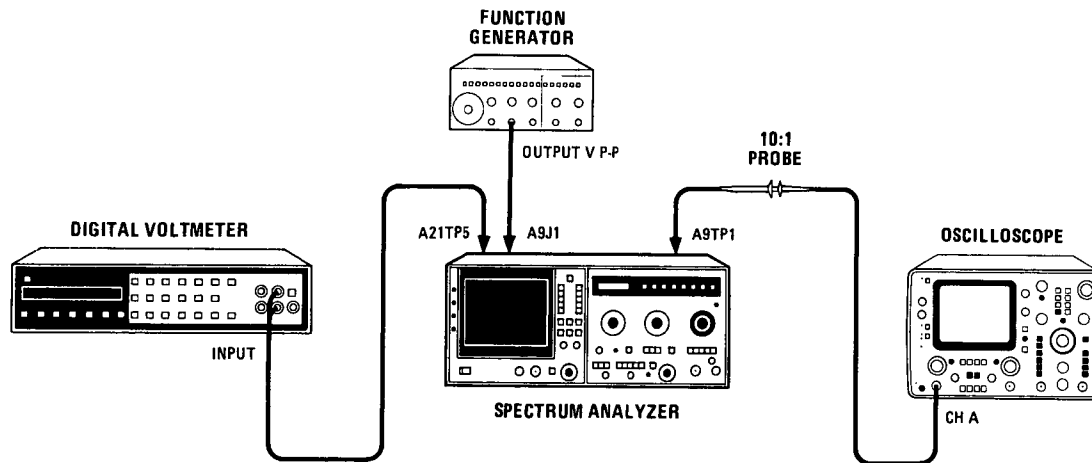

Figure 5-12. Digital Storage Adjustments Test Setup
A description of all test routines is provided in the preceding section, with instructions for entering and exiting the routines. For convenience, some descriptions are repeated in this section. The test setup for digital storage adjustments is shown in Figure 5-12. Adjustment locations are shown in Figure 5-13.
3. Connect oscilloscope probe to A9TP1 DGTL VERT and ground probe to A9TP2 GND 3 (Figure 5-12).